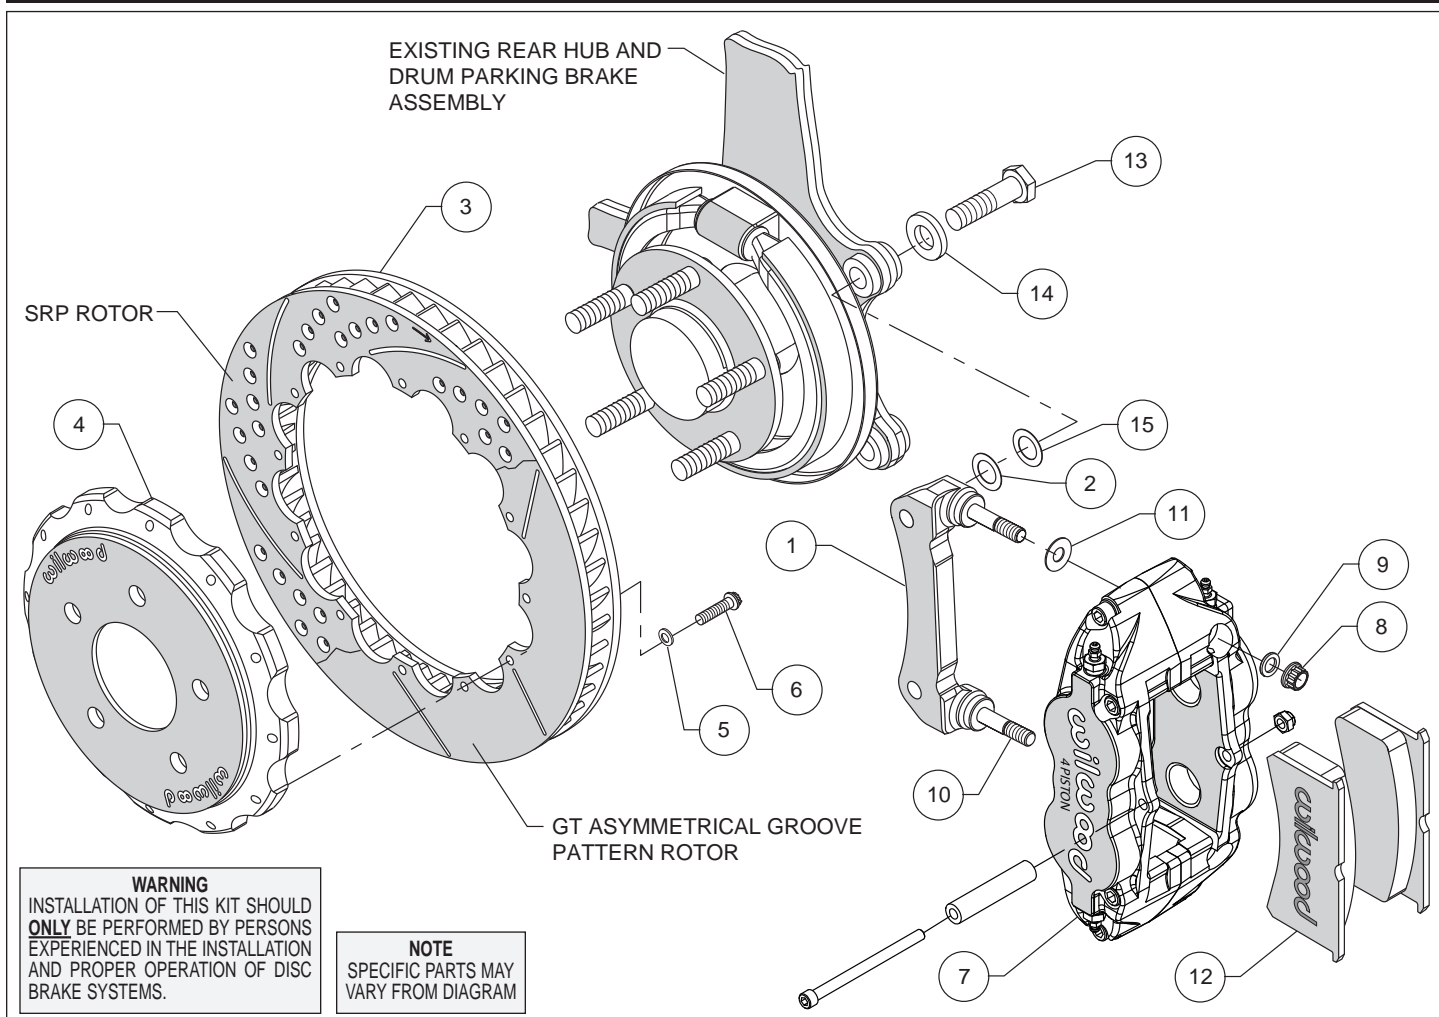
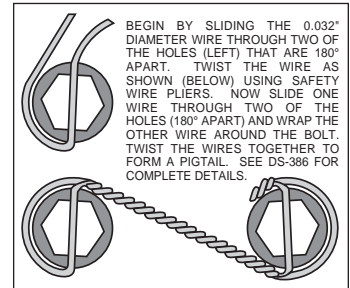

Figure 1. Typical Installation Configuration
Figure 3. Safety Wire Diagram
Assembly Instructions (numbers in parenthesis refer to the parts list and Figure 1 on the preceding pages):
- The caliper mount bracket (1) should initially be installed with clean, dry threads on the mounting bolts. Orient the bracket, as shown in Figure 1 and install using bolts (13) and washers (14). Initially place one .029" thick shim (15) on each bolt between the bracket and upright, Figure 1. Temporarily tighten the mounting bolts. **NOTE:** *The bracket must fit squarely against the mount bosses on the upright.* Inspect for interference from casting irregularities, machining ridges, burrs, etc. Later, after the caliper alignment has been checked, the mount bolts will be secured using red *Loctite*[®] 271.
- Orient the rotor (3) and the hat (4) as shown in Figure 1 and Photo 1. Attach rotor to hat using bolts (6) and washers (5). Using an alternating sequence, apply red *Loctite*[®] 271 to the threads, and torque to 155 **in-lbs**. For an added measure of security, the bolts may be safety wired using standard 0.032 inch diameter stainless steel safety wire as shown in Figure 3. Refer to Wilwood's data sheet DS-386 (available at www.wilwood.com/Pdf/DataSheets/ds386.pdf) for complete safety wire installation instructions.
- Lubricate the caliper mounting studs (10) with lightweight oil. Initially place one .035" thick shim (11), on each stud as shown in Figure 1 and Photo 2. Mount the caliper (7) onto the bracket (1) using lock nuts (8) and washers (9), Figure 1. Temporarily tighten the lock nuts and view the rotor through the top opening of the caliper. The rotor should be centered in the caliper, Photo 3. If not, adjust by adding or subtracting shims (2 and/or 15) between the bracket and the upright. Always use the same amount of shims on each of the two mounting bolts. Once the caliper alignment is correct, remove the bracket mounting bolts (13) one at a time, apply red *Loctite*[®] 271 to the threads, and torque to 77 ft-lb.